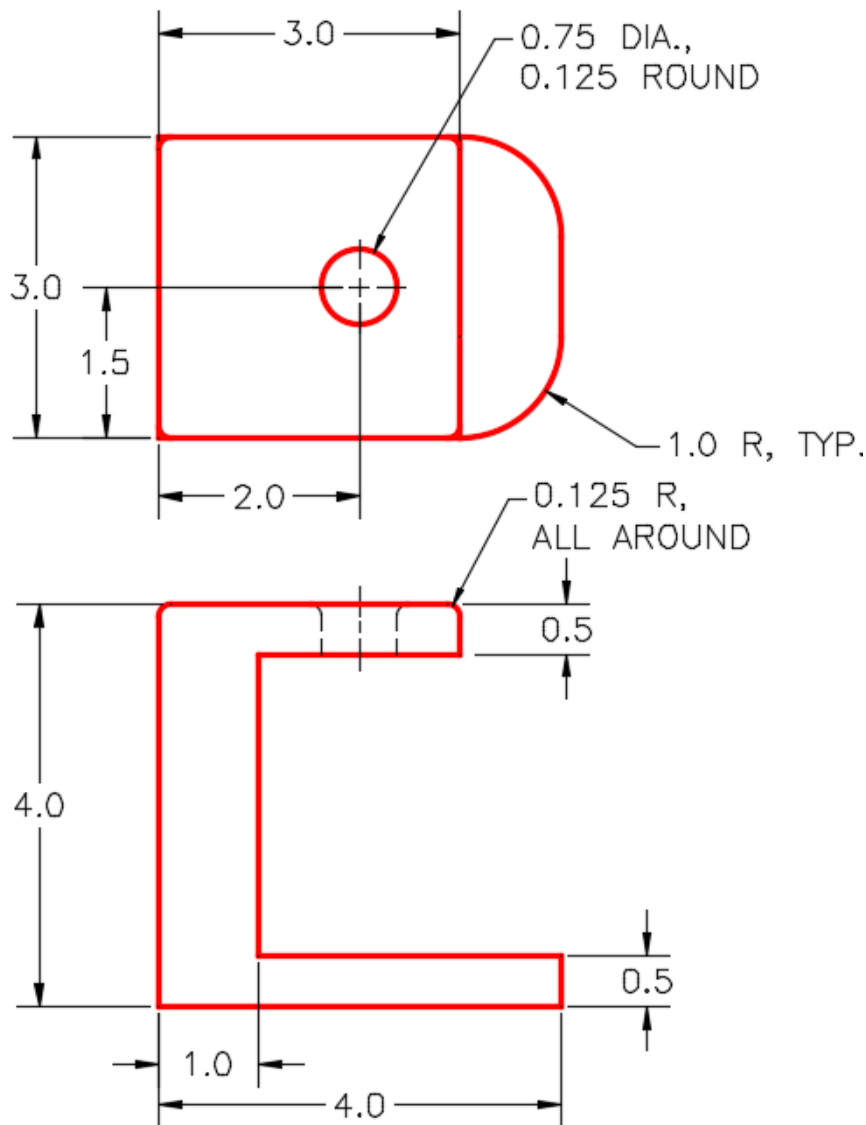

Figure Step 3A
Step 3 Set layer: Pline as the current layer, the current UCS to Front, the current view to SE Isometric, and the current visual style to 2D Wireframe. Create a the closed pline on the Front view using the figures as a reference. Ignore the fillets and rounds. (Figure Step 3A, 3B, and 3C)